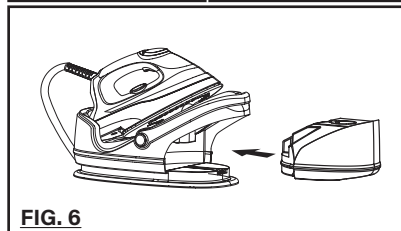

FIG. 6
Step 5 - Replace the water tank into the base unit again. You will hear a "Click" sound once the base unit is securely locked in. (Fig. 6)